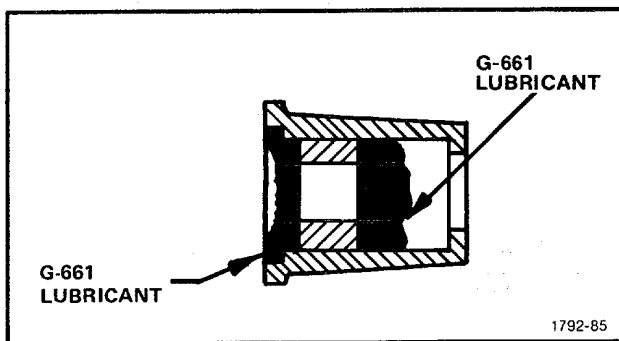

Figure 5-32. Lubrication of ZERO REFERENCE knob.
28. Installation of the ZERO REFERENCE knob and the zero reference CHECK pushbutton (see Figs. 5-32 and 5-33)
1. Apply G-661 lubricant to the ZERO REFERENCE knob as shown in Fig. 5-32.